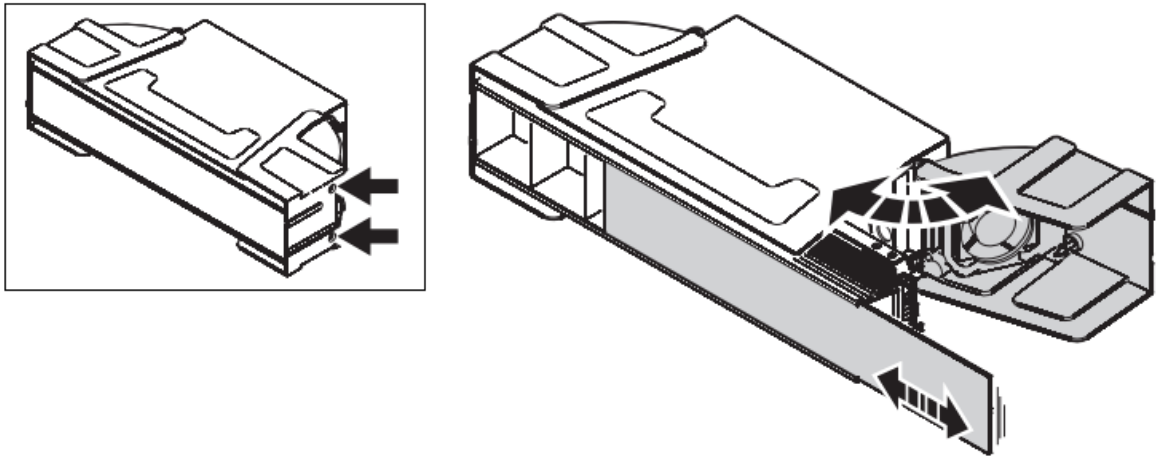

Figure 6: Installing / removing the diffuser front
- See Figure 6. Loosen the two captive screws (arrowed) on the end cap and swing the end cap open.
2. See Figure 6. Loosen the two captive screws (arrowed) on the end cap and swing the end cap open.
2. Remove the blue power input connector from the power inlet. See Figure 6. Loosen the two captive screws (arrowed) on the end cap next to the power inlet and swing the end cap open.
To remove the reflector, open both end caps as shown in Figure 6 on page 16 and lift the reflector out of the fixture